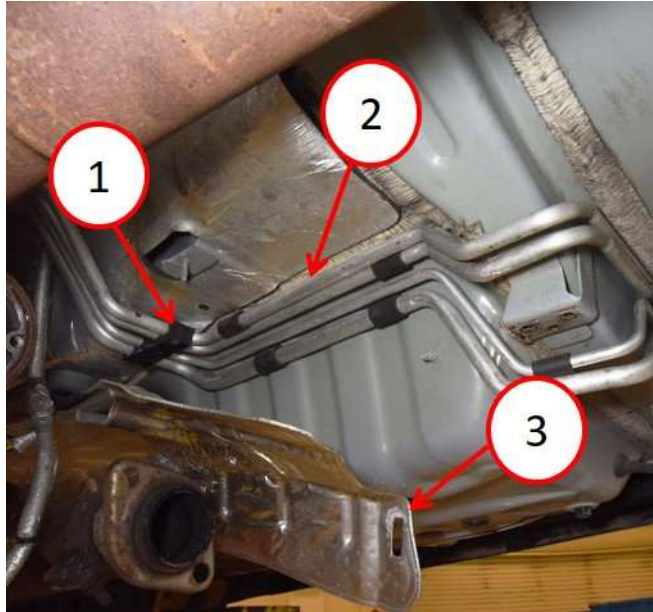

Fig. 4
5. Partially remove the heat shield from the underbody (Fig. 4) .
6. Remove and discard the two A/C line spacer clips from the lines and tubes (Fig. 4) .
14. Install two new A/C line spacers on the tubes (Fig. 4) .
15. Install the heat shield on the underbody (Fig. 4) .